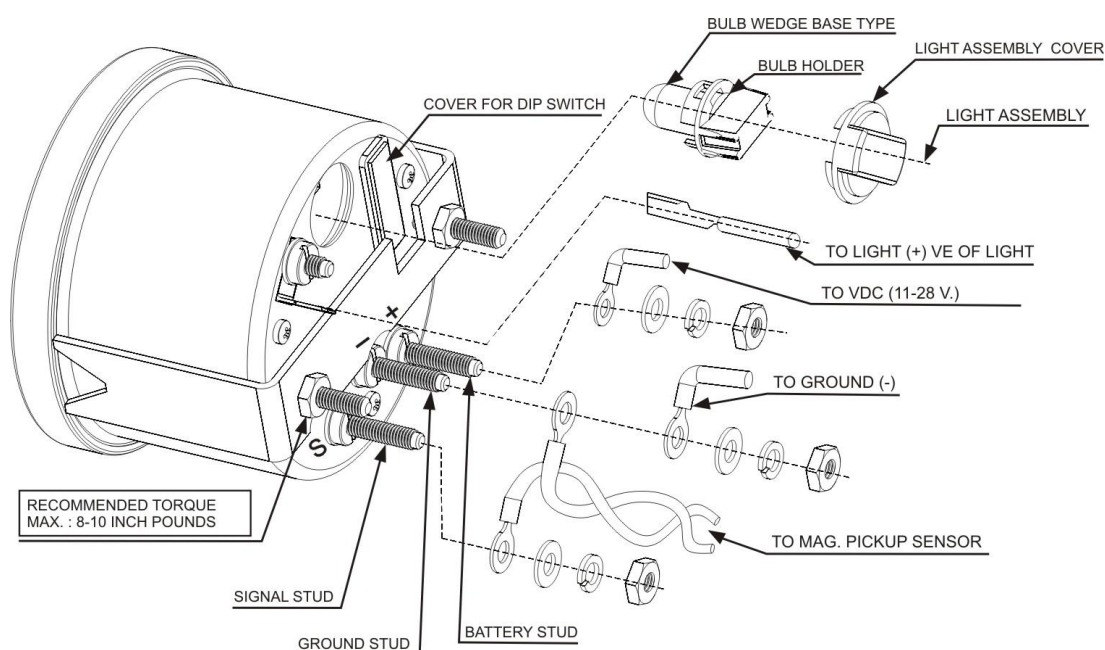

Figure 2 - Back of AT TACH
2. Connect a wire from the “-” terminal to the negative voltage source (electrical ground). This is shown in Figure 2 as the ‘ground stud’ (Figure 2 is found in the section: Case Mounting Instructions under Mounting Requirements in this document).
1. Pull out the black rubber protective cap (Light Assembly Cover) provided at back as shown in Figure 2.
2. Twist the bulb holder about 1/8 turn counter-clockwise and remove the bulb holder and bulb. (See Figure 2.)
The magnetic sensor (pickup) usually has two connections (terminals or wires) exiting from it. These connections are not polarized; either connection can be considered positive or negative signals. These two connections must be routed directly to the unit. Do NOT ground one of the connections at the engine. (See Figure 2)
2. Connect the other wire in the twisted pair (from the magnetic sensor) to the negative (-) terminal (also noted in Figure 2 as the ‘ground stud’).
Connect wire from the “S” terminal to the negative (-) side of the ignition coil or to the terminal marked “TACH” on solid state ignition systems (See Figure 2 – found in this document under the section Case Mounting Instructions, Mounting Requirements).